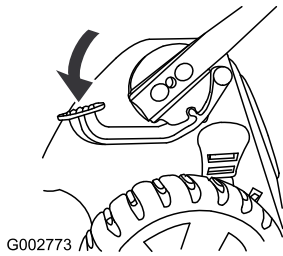

Figure 50
1. Step on the foot pedal and hold it down (Figure 50).